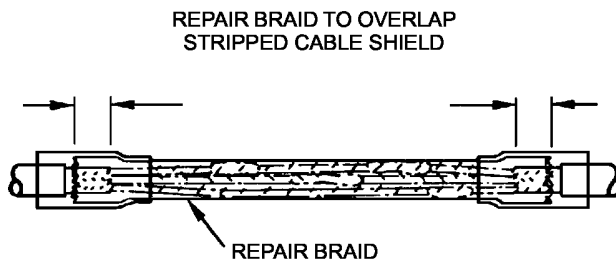

Figure 13. Repair Braid Centered Over Repair Area
o. Slide repair braid along cable and center over repaired area (Figure 13).